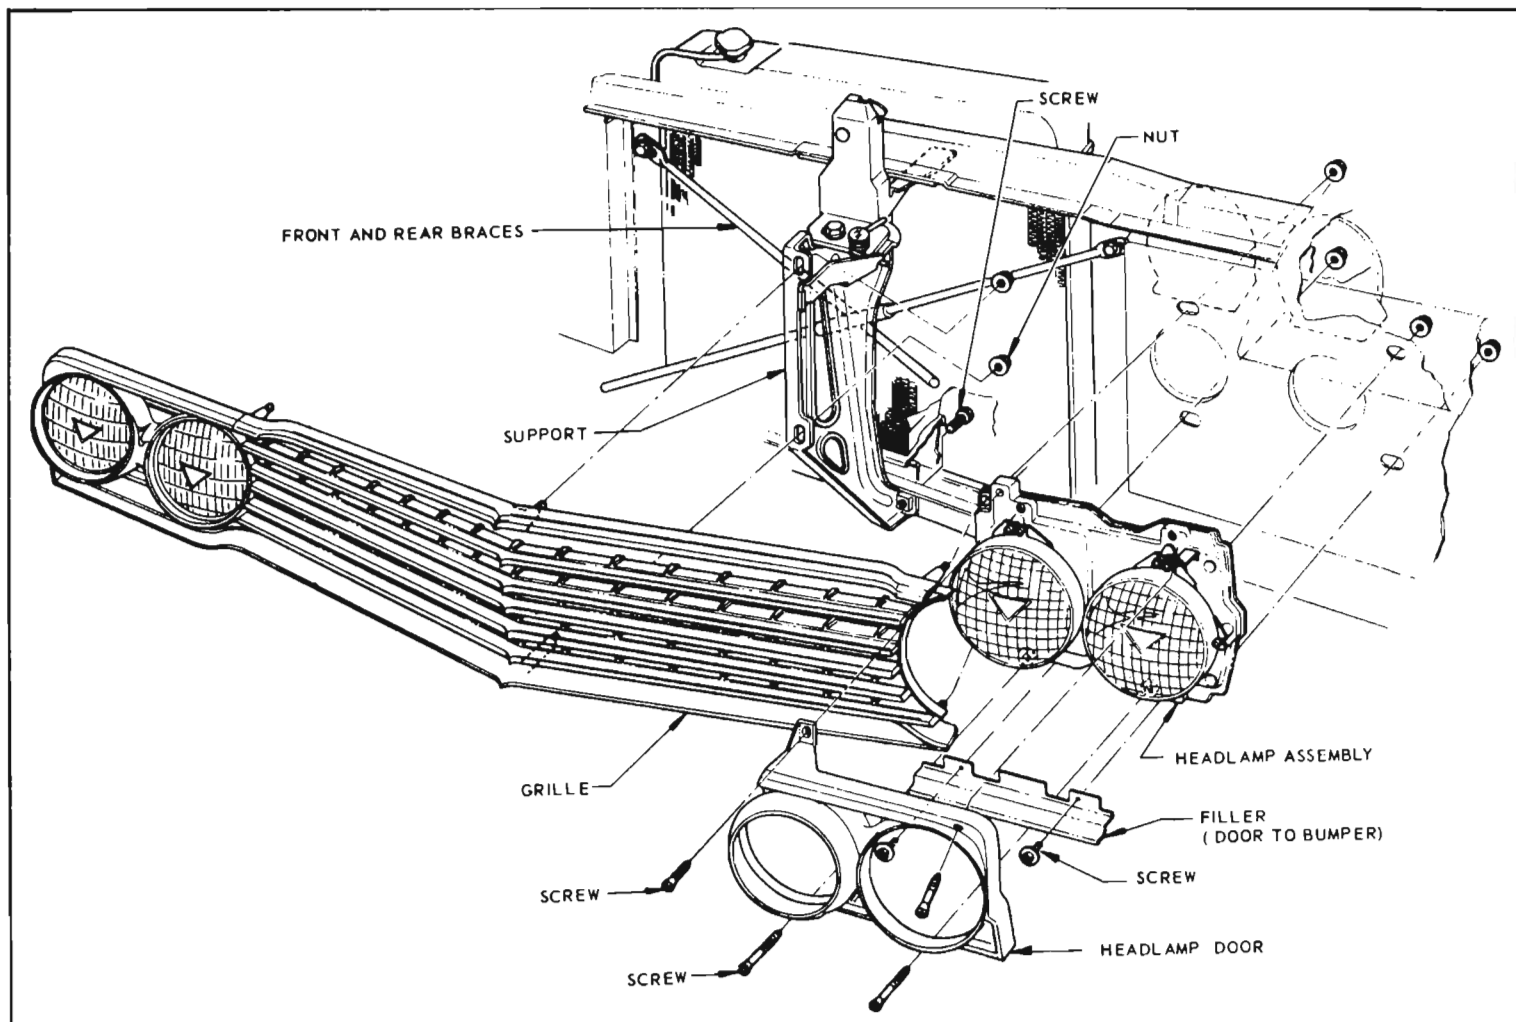

Figure 11-108—Front End and Headlamp Installation
4. Remove one bolt securing each cross brace (see Figure 11-108) to the radiator baffle and position front and rear braces out of way.
(a) Unscrew four screws securing right headlamp door (see Figure 11-108) to headlamp assembly.
(a) Unscrew four screws securing right headlamp door assembly (see Figure 11-108) to headlamp assembly.